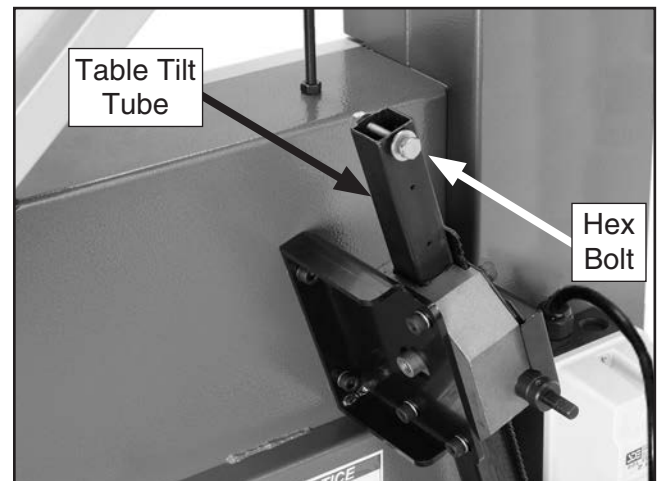

Figure 26. Table tilt assembly.
- Remove the hex bolt, hex nut and flat washers installed on the geared table tilt tube (see **Figure 26**).